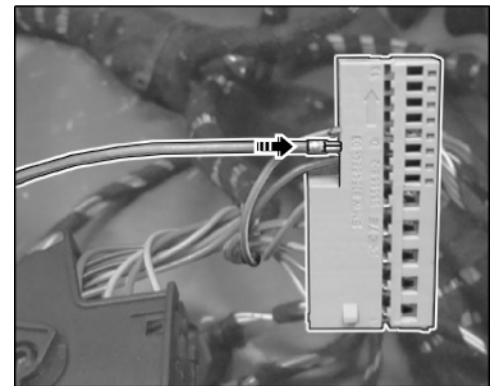

Figure 17
2.4.3 Insert the socket contact into chamber 8, plug socket (grey). ⇒ *Figure 17 -Arrow-*